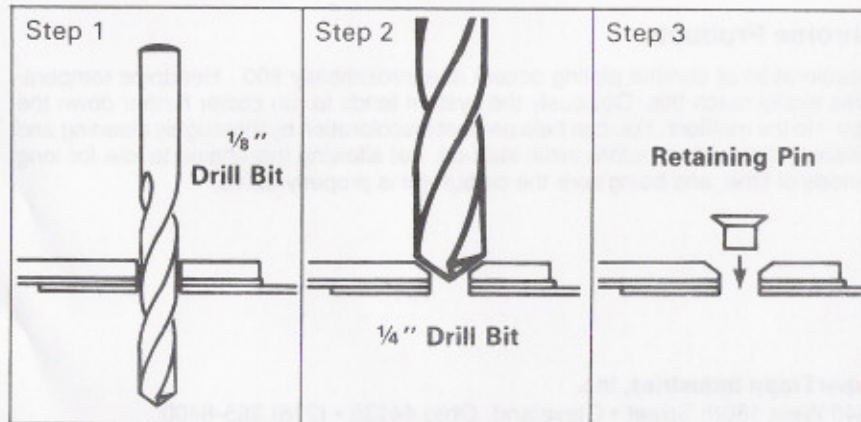

Figure 2
3. Using only the tip of a 1/4" drill bit, carefully countersink hole for flush installation of retaining pin. (Figure 2)